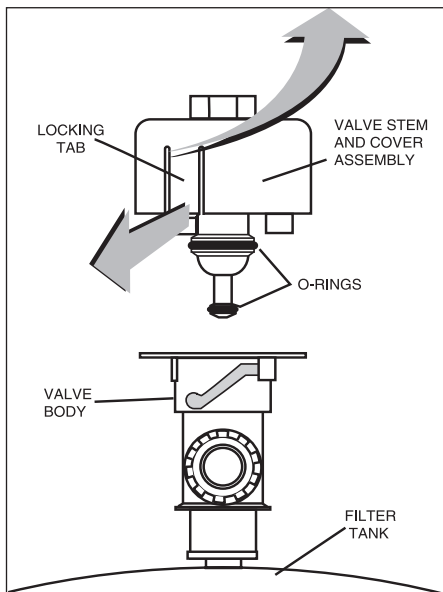

Figure 5: Manual Air Relief Valve
3. With the manual air relief valve attached to the Quad D.E.® Cartridge Style Filter tank, pull out the locking tabs and remove the valve stem and cover assembly with a counter-clockwise and lifting motion (see **Figure 5**).